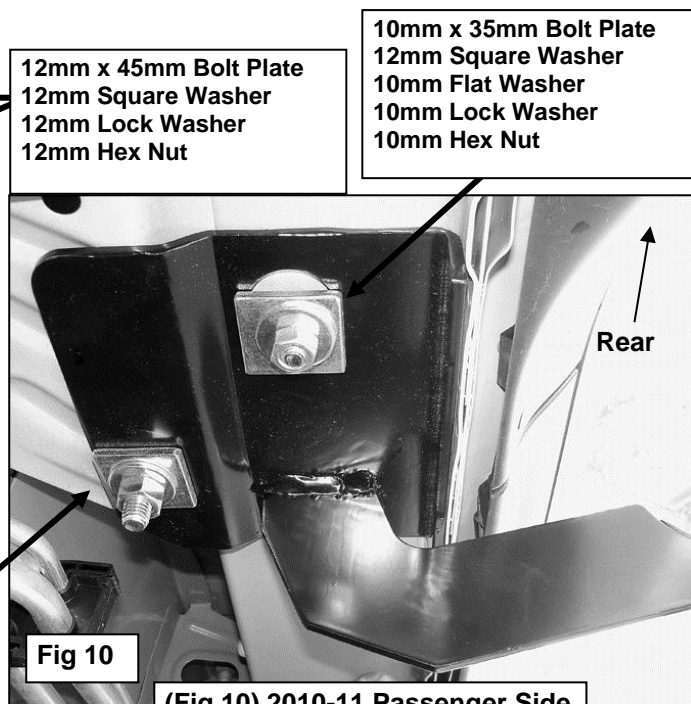

Fig 10
- On 2010-11 Vehicles:** Use (1) 12mm Square Washer, (1) 10mm Flat Washer, (1) 10mm Lock Washer and (1) 10mm Hex Nut to secure the Bracket to the 10mm Bolt Plate in center of the floor panel, **(Figure 10)**. Use (1) 12mm Flat Washer, (1) 12mm Lock Washer and (1) 12mm Hex Nut to secure the Bracket to the Bolt Plate in the round hole. Do not tighten hardware at this time.
(Fig 10) 2010-11 Passenger Side Rear Installation Pictured